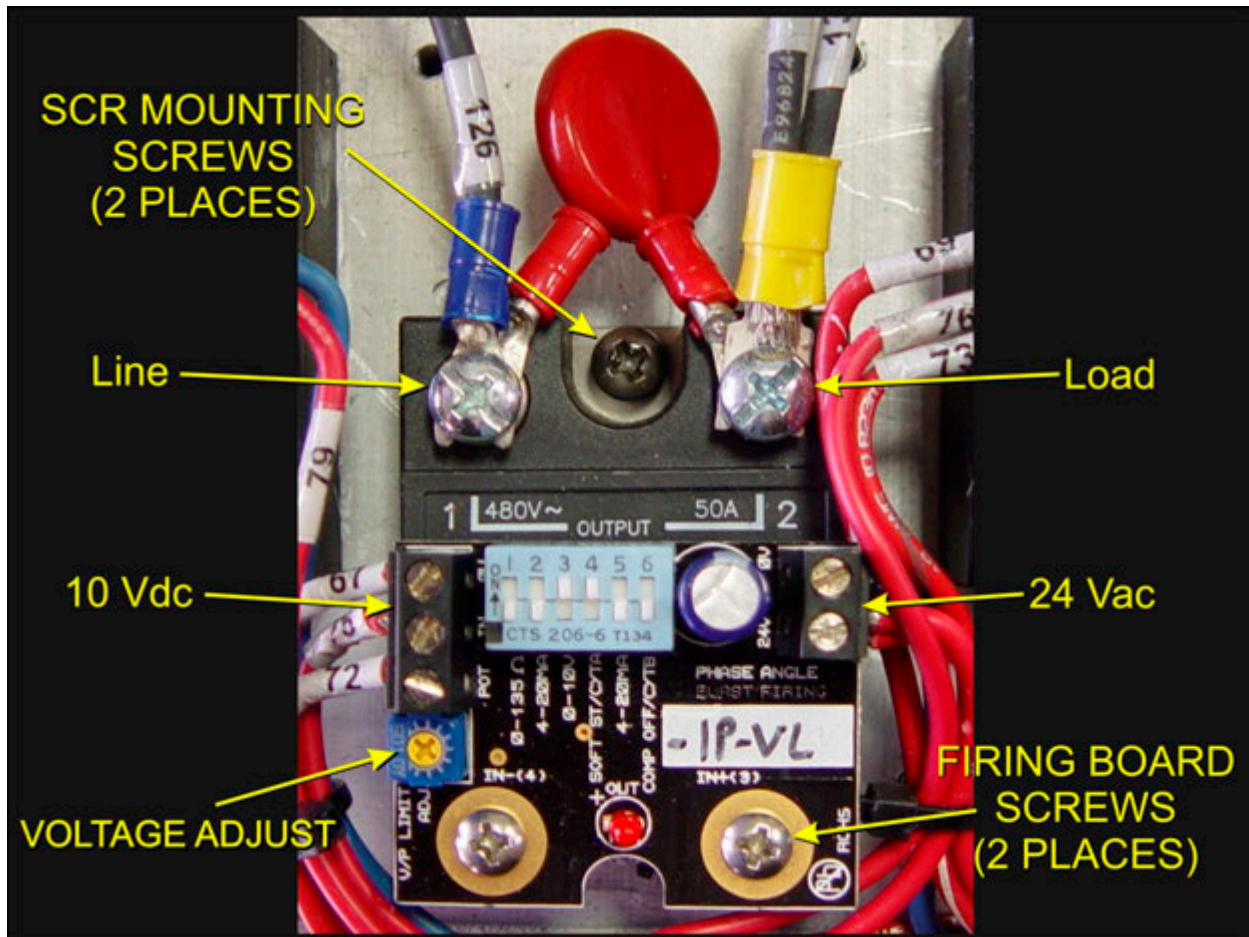

Figure 7-28 SCR installed
To remove the entire SCR assembly, disconnect the 10Vdc and the 24 Vac wire pairs. Unscrew the Line and Load wires. If you are only replacing the firing board, remove the (2) firing board screws. If you are removing the entire assembly, remove the (2) SCR Mounting screws. See **Figure 7-28 SCR installed**
Install an entire SCR assembly, by first checking that thermal paste is applied to the back of the SCR and the heat sink (aluminum plate) in the location where it will be mounted. Screw the assembly to the heat sink. Connect the 10 Vdc control wires, the 24 Vac control voltage wires and the Line and Load wires with red capacitor in place. Make sure the dip switch is set as shown in Figure 7-28. Then follow the procedure on page 7-25, section **7.9.1 Calibrate SCRs** to calibrate the SCR.